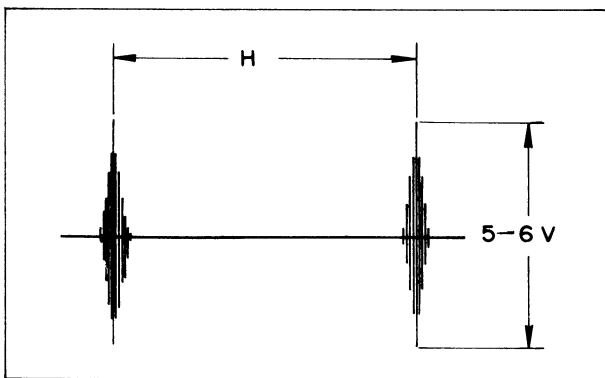

Fig. 5-26. Burst waveform
2. Adjust L23 and L24 alternately so that the burst level is maximum (5–6Vp-p). Refer to Fig. 5-26.